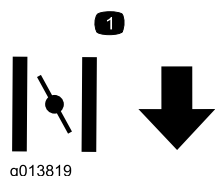

Figure 15
- Pull out the choke lever (Figure 14 and Figure 15).